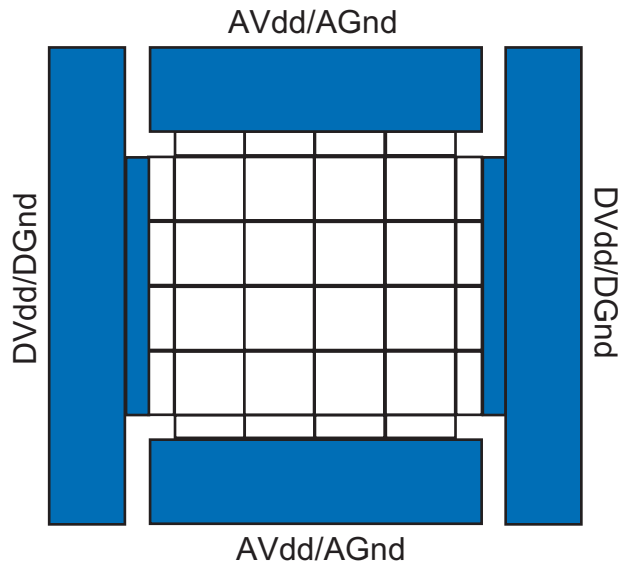

Figure 1.2: Power Bus Layout
Analog Vdd and Gnd signals enter the metapixel array through the PixelFootTop and PixelFootBottom cells. Digital Vdd and Gnd signals enter the metapixel array through the PixelFootLeft and PixelFootRight cells (Figure 1.2).
1. Digital Vdd and Gnd enter the metapixel array through the left and right sides of the metapixel array, while Analog Vdd and Gnd enter the array through the top and bottom (Figure 1.2). It is strongly recommended that your metapixel has all these signals (or at least 3) entering the metapixel from the appropriate side. Any signals that cannot be routed as such from within the metapixel can then use the edge pixels to route them around. For example, your layout may require you to have Analog Gnd exiting the right side of the metapixel. In that case, PixelFootRight can be used to route Analog Gnd to PixelFootTop; it will extend beyond PixelFootRight's abutment box.